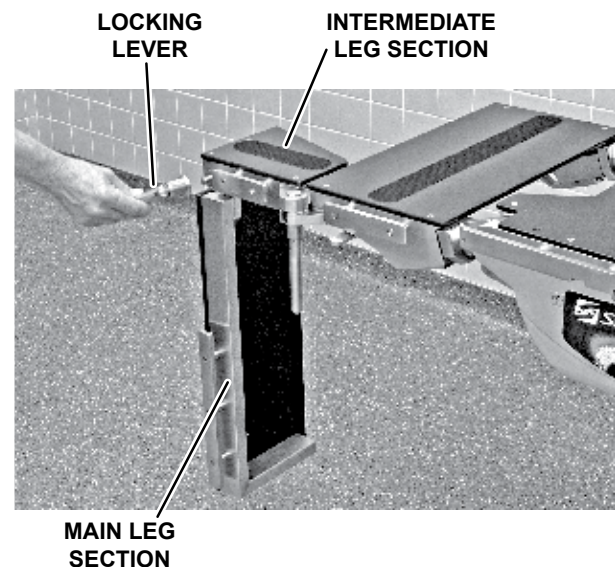

Figure 7. Main Leg Section Attachment
- Install the threaded stud of the main leg section into the opening for the attachment collar on the intermediate leg section (Figure 7). Install the locking lever.